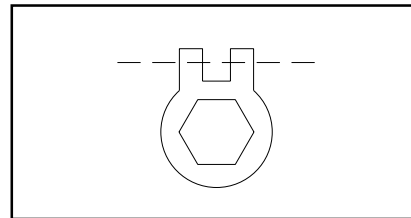

Figure 1. Hex Alignment with Latch Bolt
**Before removing the hex bushing, note the alignment of hex flats with latch bolt centerline (see figure 1) so that the new hex bushing is installed with the same alignment.**